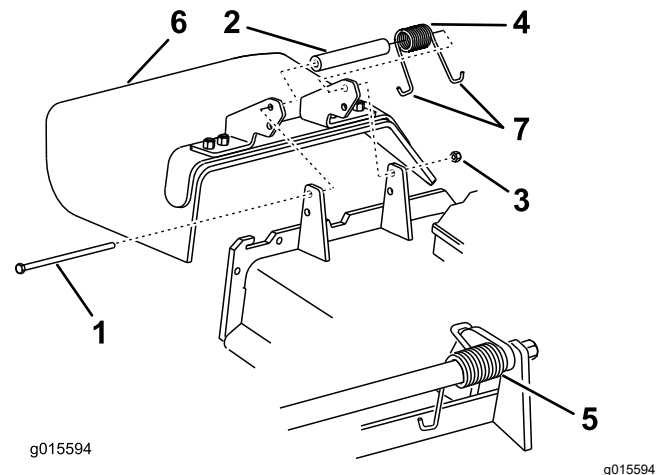

Figure 108
1. Remove the locknut, bolt, spring, and spacer holding the deflector to the pivot brackets (Figure 108).
2. Remove the damaged or worn grass deflector (Figure 108).
Note: Make sure that 1 J-hook end of the spring is installed behind the deck edge before installing the bolt as shown in Figure 108.
6. Place 1 J-hook end of the spring around the grass deflector (Figure 108).